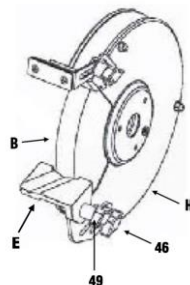

Fig. 2
To attach the tool rests (E), accomplish the following (Fig. 2).
2. Using the carriage bolt, star washer, washer and knob, attach the work rest bracket to the inside of the wheel guard (H).
3. Attach the tool rest (E) to the tool rest support using the lock nut (#49).